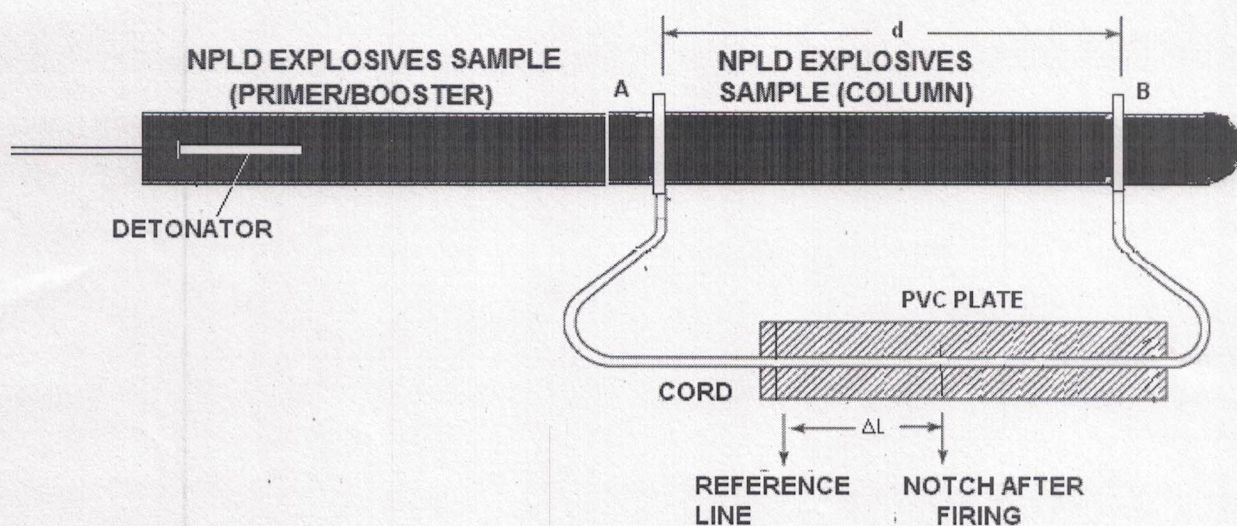

Fig 2: Typical photograph of experimental setup for Dautriche method
- i. The typical sketch of the experimental set up in respect of Dautriche method is shown in figure 2.